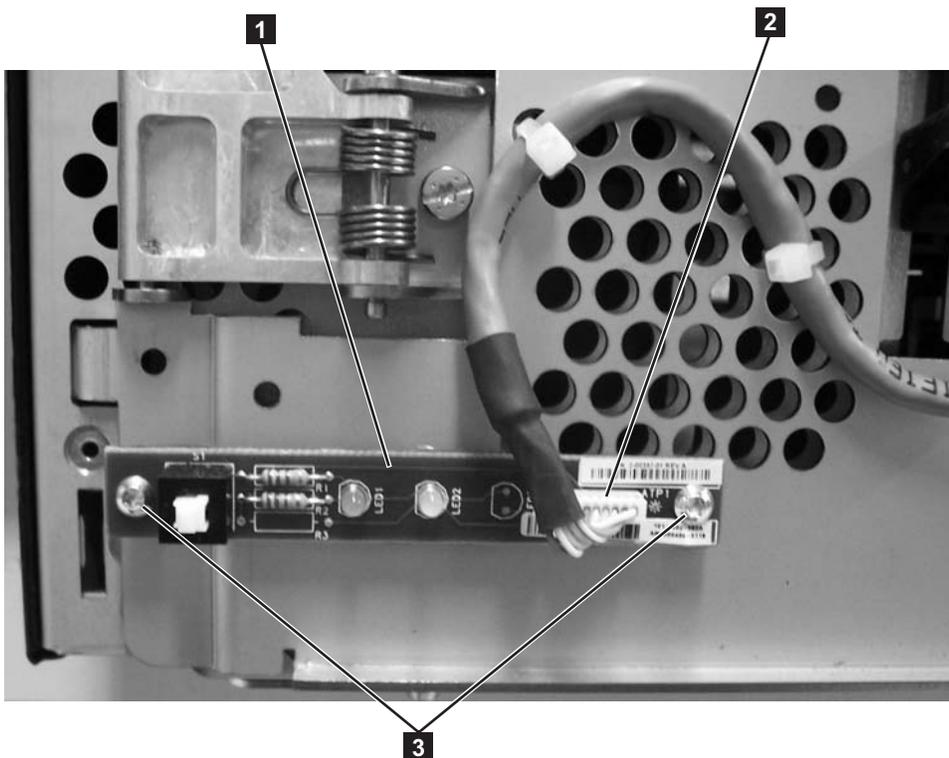

Figure 8-23. Power ON/OFF Button Assembly
The Power ON/OFF Button Assembly ( **1** in Figure 8-23) contains the power ON/OFF button, power ON LED, and Operator Attention LED.
3. Disconnect the small white connector ( **2** in Figure 8-23 on page 8-26).
4. Remove the two screws ( **3** in Figure 8-23 on page 8-26).